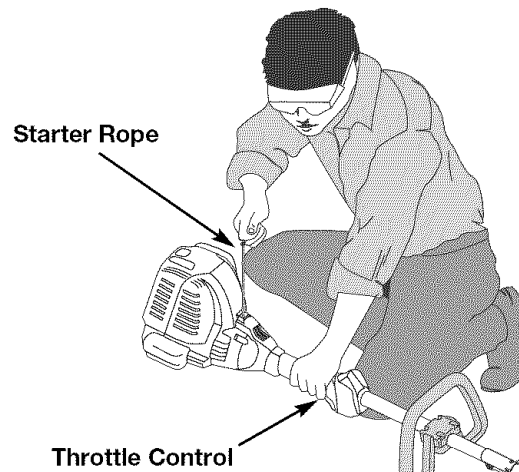

Fig. 8
**WARNING:** Avoid accidental starting. Make sure you are in the starting position when pulling the starter rope (Fig. 8). To avoid serious injury, the operator and unit must be in a stable position while starting.
6. Crouch in the starting position (Fig. 8). Squeeze the throttle control lever. Pull the starter rope briskly 5 times.